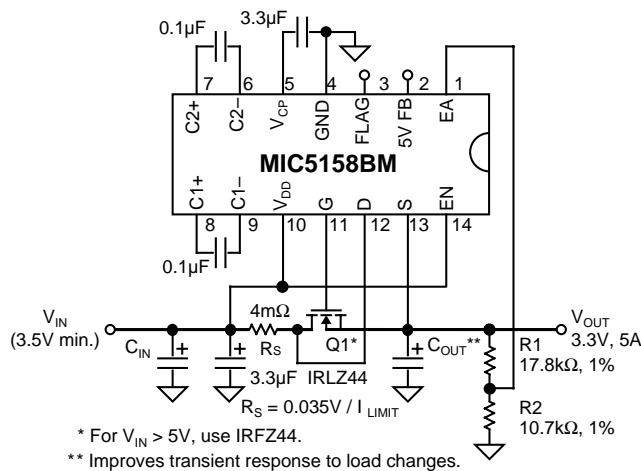

Figure 1. Regulator Circuit Diagram
A demonstration board is available for evaluating the MIC5158. The circuit is designed to produce a 3.3V, 5A output from a 5V input. The design goal was to occupy as little PCB space as practical, so minimizing sense resistor area was important. In Figure 1 this resistor is shown as  $R_S$ .
The 4-m $\Omega$  current-sensing resistor ( $R_S$ ) of Figure 1 is designed as follows: (1) based on copper trace height and an allowed temperature rise for the resistor, calculate the sheet resistance (Equation 1); (2) based on the maximum current the resistor will have to sustain, calculate its minimum trace width (Equation 2); and (3) based on the desired resistance, calculate the required trace length (Equation 3).